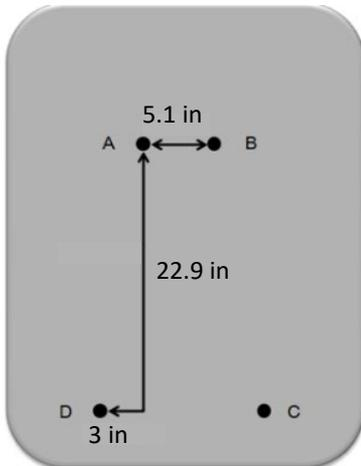

Fig.5 Hole Positions
- Drill three holes – (A), (B), (C or D) in Fig. 5 – into the wall to allow for insertion of drywall anchors. The diameter of each hole should be slightly less than the width of the anchors, about 0.2 inches. The distance between the holes should meet the requirements shown in Fig.5 (next page)